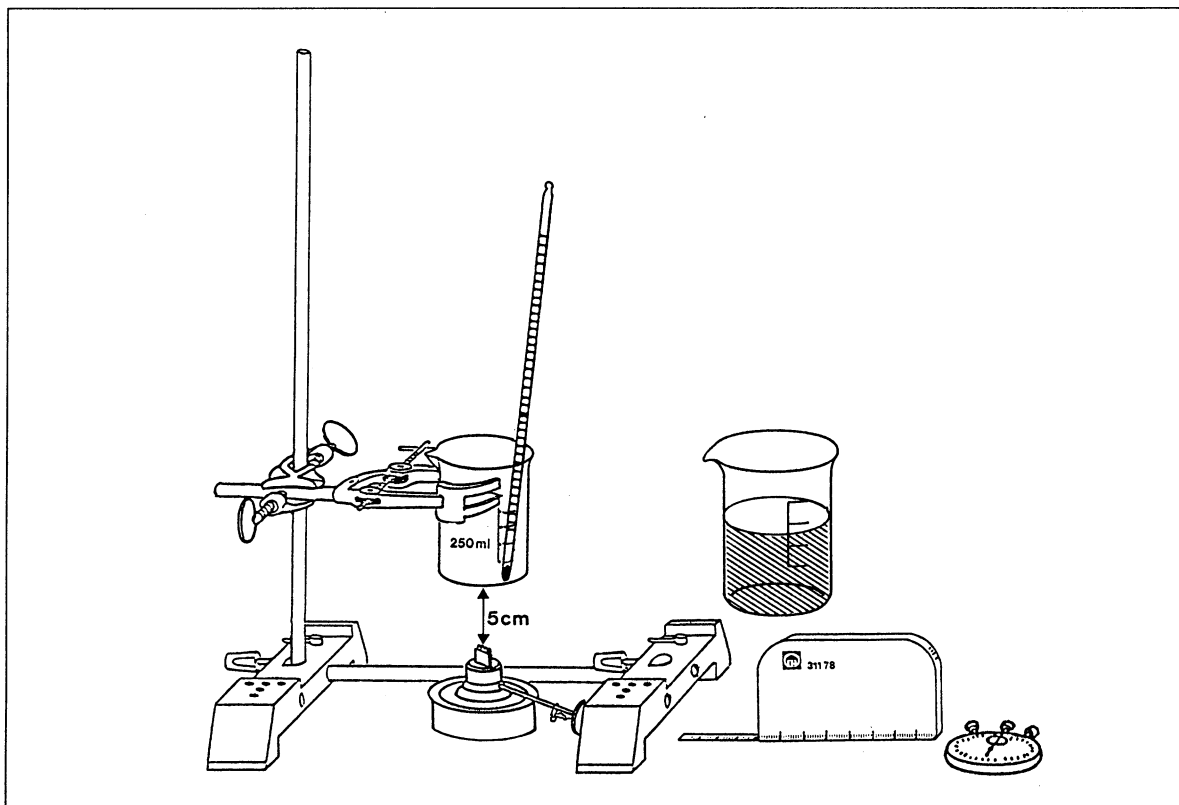

Fig. 1 Setup for investigating the behaviour of water when heated.
1. Set up the stand as shown in fig. 1, attaching the double socket and apparatus clamp.